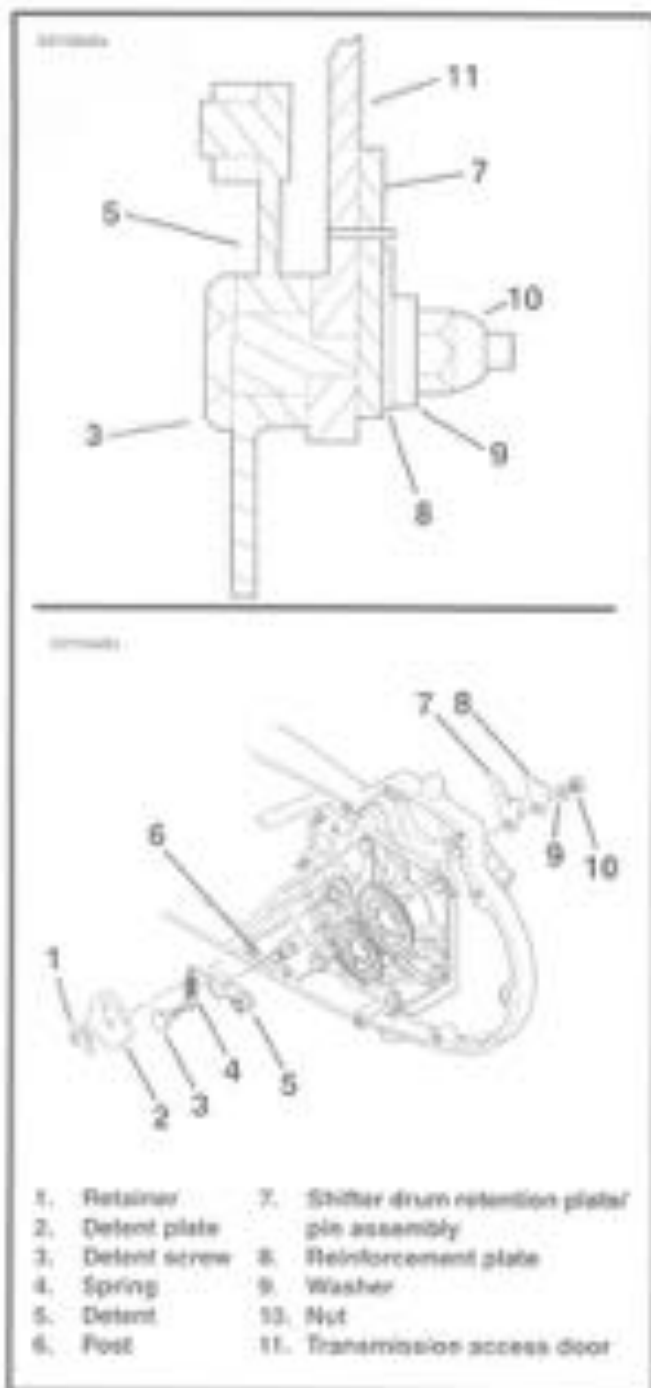

Figure 6-26. Detent Plate Mounting
See Figure 6-26. Detent plate (2) and bowed snap ring (1) are not installed at this time. These parts are installed during transmission installation after the final shifter pawl adjustment is completed. See TRANSMISSION INSTALLATION AND SHIFTER PAWL ADJUSTMENT later in this section.
- See Figure 6-26. At the inside of the access door (11), place the shifter drum retention plate (7) in the groove of the drum shaft. Take care to correctly align the shifter drum retention plate (7) and drum reinforcement plate (8) with the retaining pin pressed in the retention plate (7). Insert detent screw (3) through detent arm (5), transmission access door (11), shifter drum retention plate (7), drum reinforcement plate (8) and washer (9). Thread nut (10) on detent screw (3) and tighten to 13-17 ft-lbs (18-23 Nm) torque.